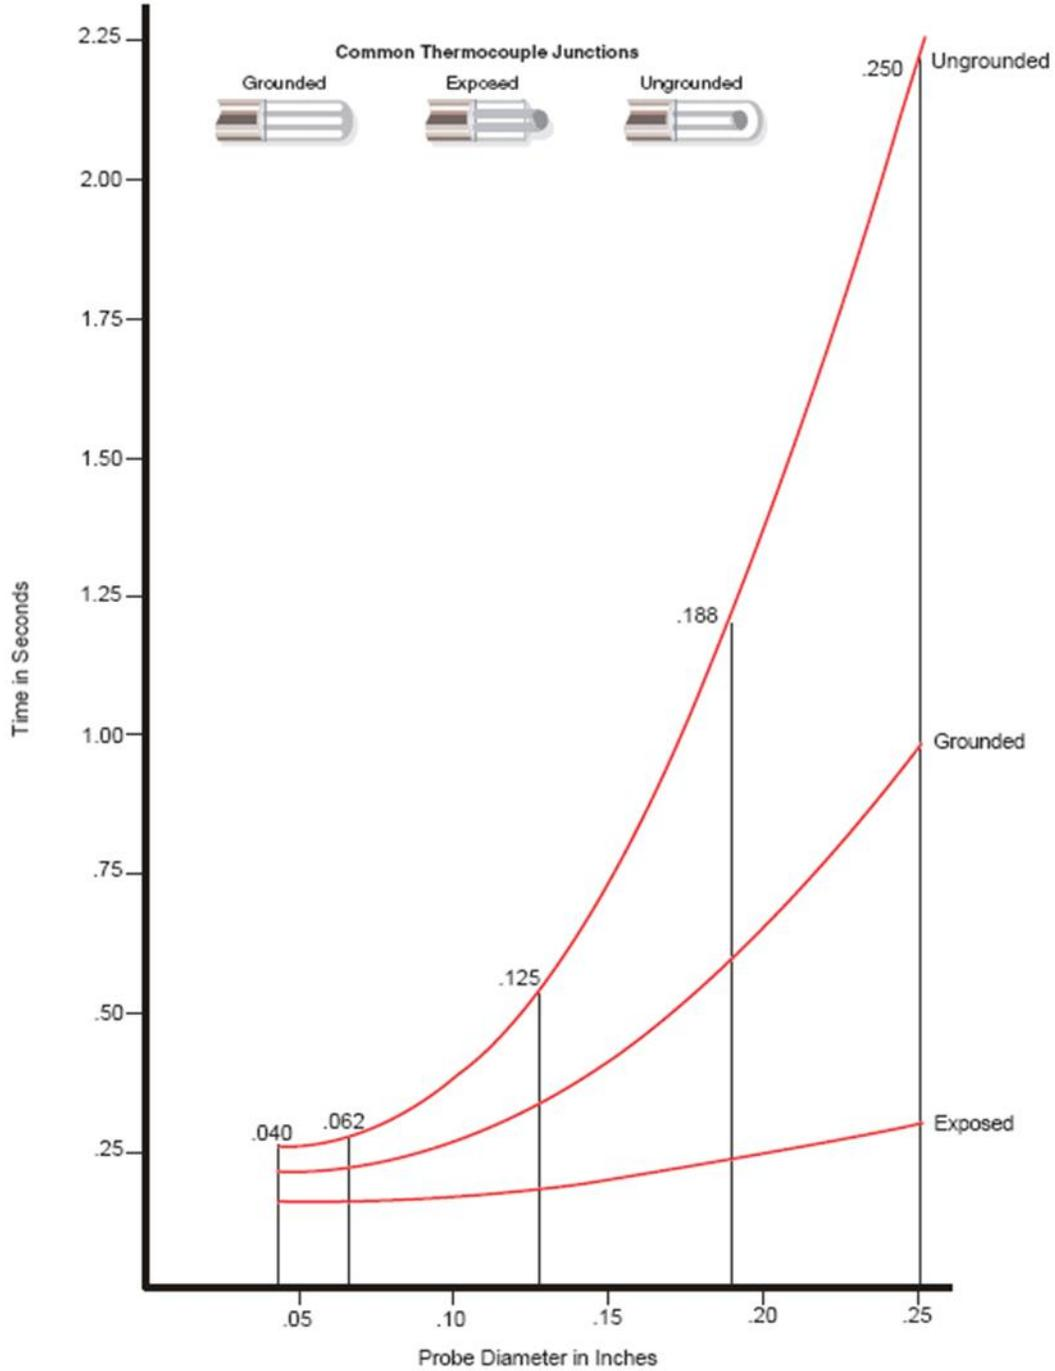

Figure 5. Metal Sheathed Thermocouple Probe Time Response Study in Water
The data analysis required by this laboratory includes turning in the worksheet on the next page [with the questions answered] for this exercise. Moreover, attach the completed Table 1 (on an accompanying page) and Fig. 5 (on page 12 of this handout): 'Metal Sheathed Thermocouple Probe Time Response Study in Water'.
5. Using the measurements of your thermocouple junction, plot the average filtered time constant point on the following manufacturer's graph (Fig. 5) with standard deviation (S_x) noted (i.e., draw a range above and below the mean value to indicate the range of possible values within one sigma (68.3%)). **Does it appear to agree with the manufacturer's data?** (The y-axis is the time constant). **Explain.**